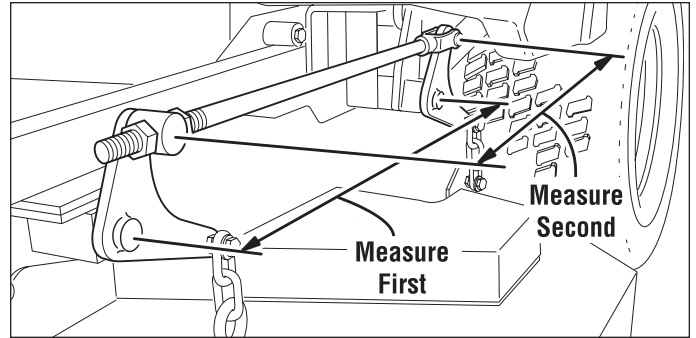

Figure 33. Check Lift Rod Timing
2. To check the lift rod timing, measure and record the distance between the lift pivots and the rod pivots. Repeat for other side of unit. See Figure 33.